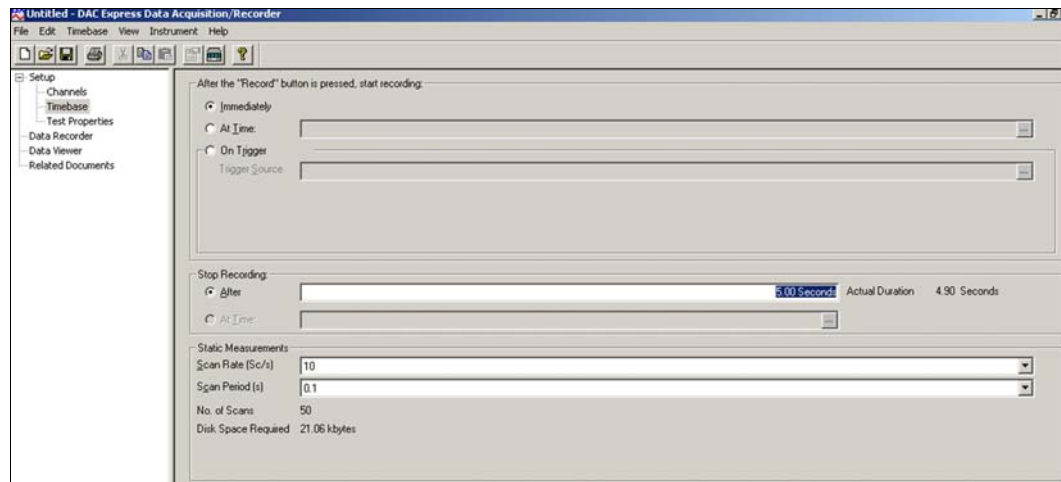

FIGURE 3-7:
- b) Select the desired channel and configure appropriately (see Figure 3-7). (Default values will work well for demonstration purposes.)